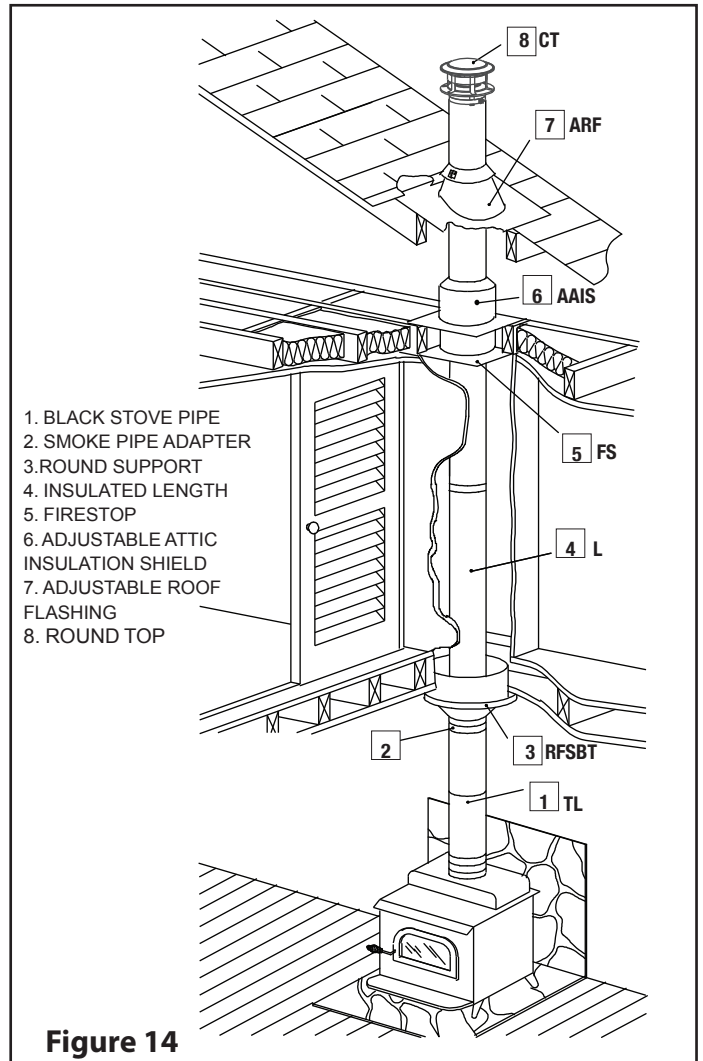

Figure 14
Step 5.1: FOR UNENCLOSED INSTALLATION OR VENTING OF OIL OR GAS APPLIANCES (See Figure 14), proceed according to Step 5.1A to Step 5.1E below.